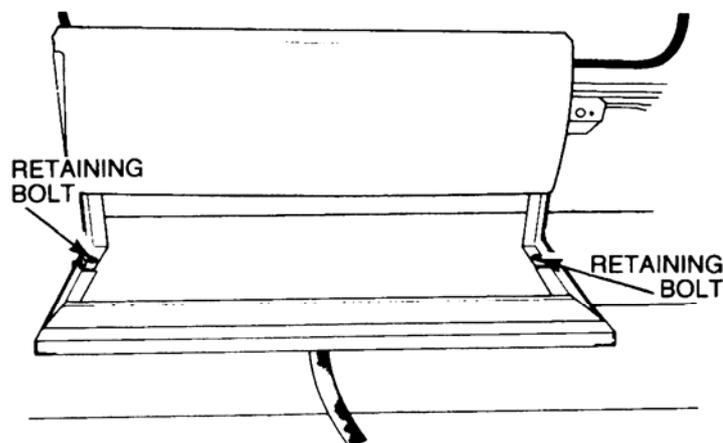

Figure 9 Left Side Rear Inward Facing Seat Removal
- a. Remove the bolts, washers and nuts retaining the seat base to the wheel arch (refer Figure 9).